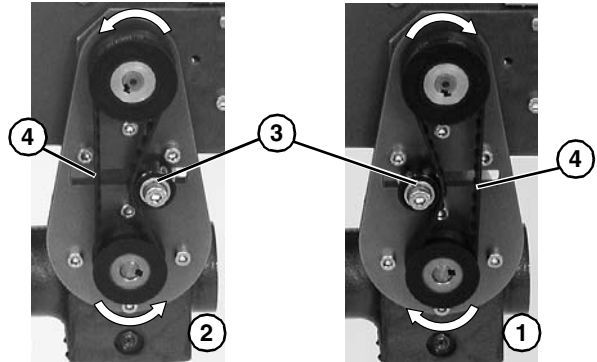

Figure 13
3. Depending on direction of conveyor belt travel (1 or 2 of Figure 13), position belt tensioner (Figure 13, item 3) as shown. Tension belt to obtain 0.125" (3 mm) deflection for 1.0 lb (456 grams) of force at belt mid-point (Figure 13, item 4). Tighten tensioner screw to 103 in-lb (12 Nm).